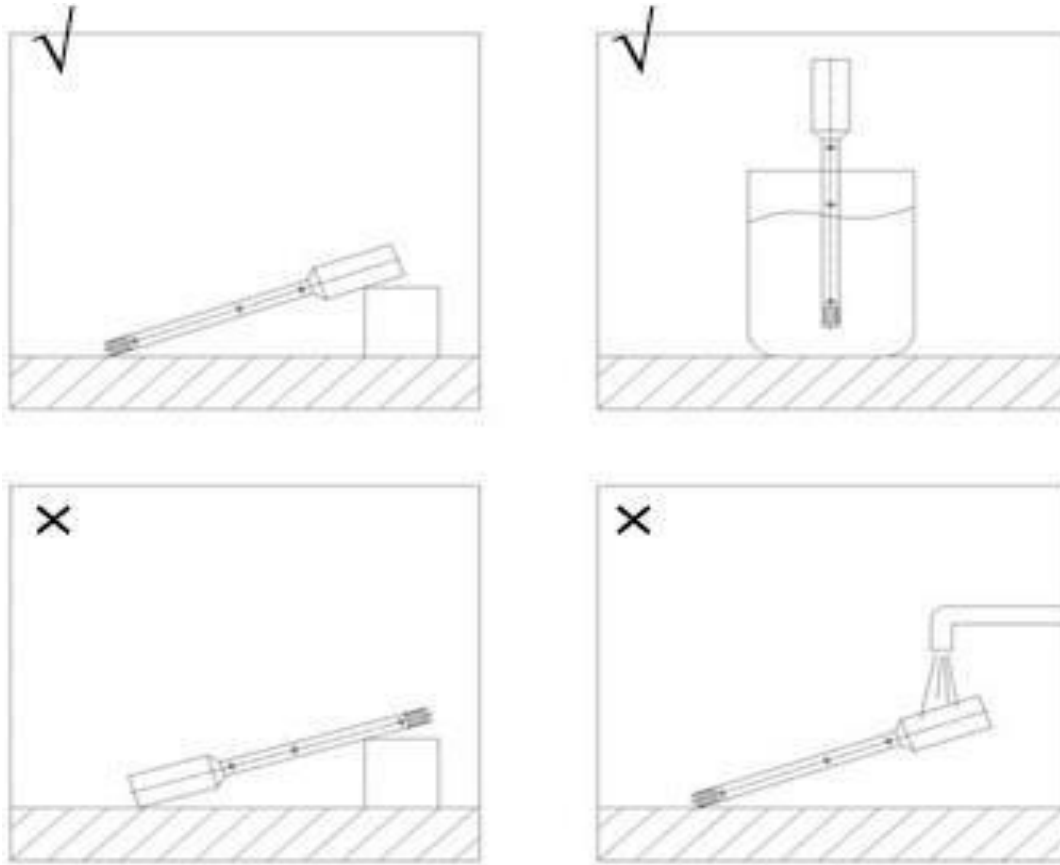

Fig. 02
- After wash cleaning, the dispersing tool should be dried before it is packed, otherwise the water may enter the bearing and cause rust and damage (**Fig.02**).